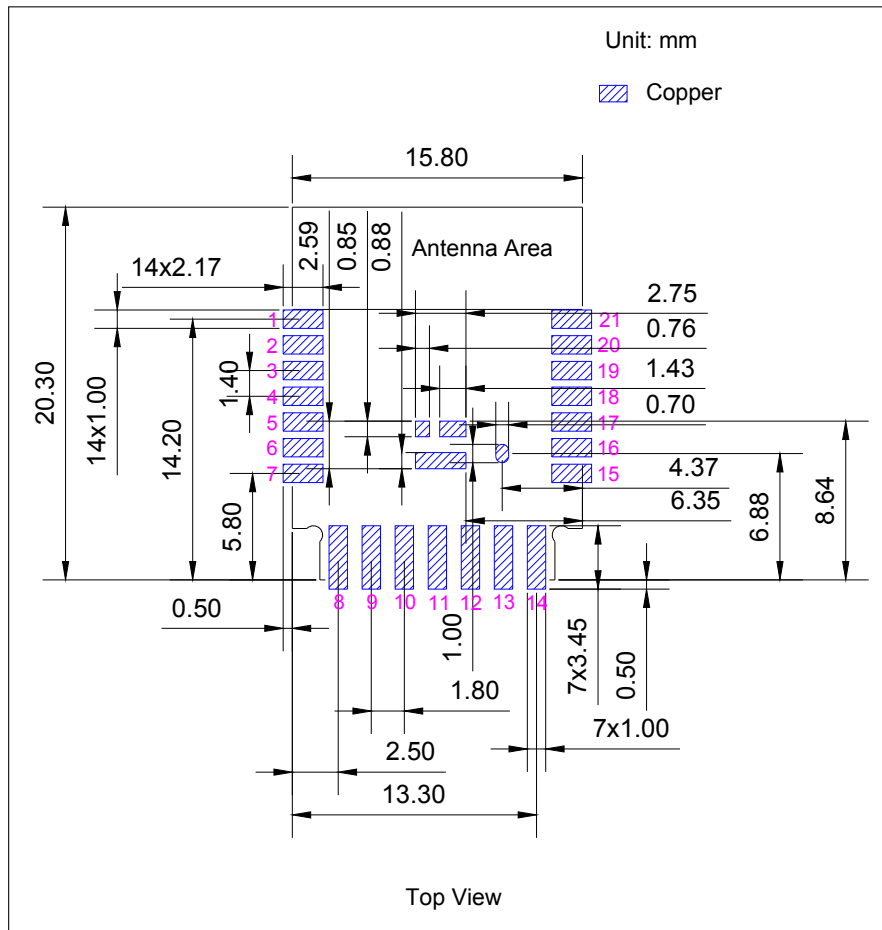

Figure 7: Recommended PCB Land Pattern for SMD Soldering
- Source file of the recommended PCB land pattern to measure dimensions not covered in Figures 7 and 8. You can view the source file for ESP8684-WROOM-06C with Autodesk Viewer.